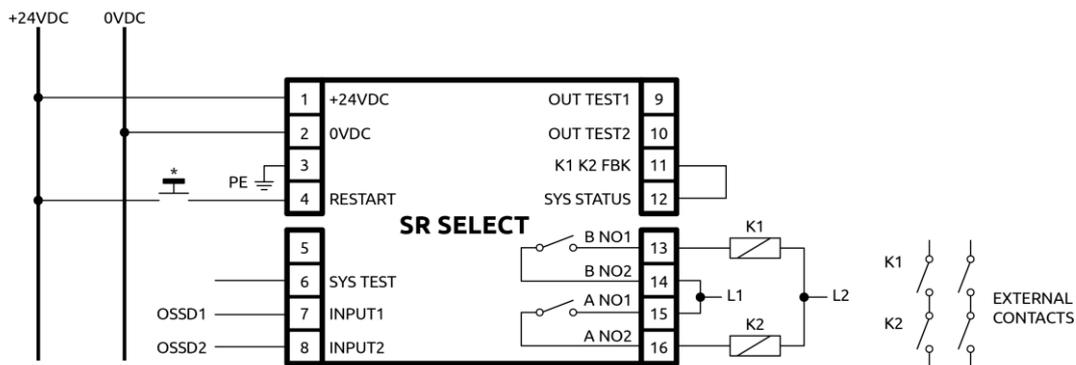

Figure 9
⚡ Without EDM it is mandatory to connect terminal 11 to terminal 12 (e.g. in Figure 9).
-  Without EDM it is mandatory to connect terminal 11 to terminal 12 (e.g. in Figure 9).
Following an example of 1A/1C mode wiring diagram without EDM (Figure 9)